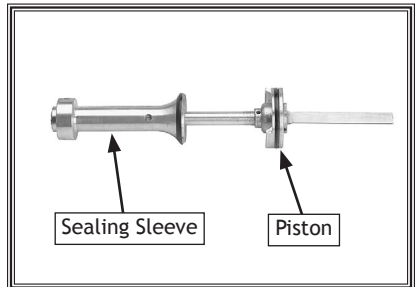

Figure 10. Piston assembly.
- Pull the piston from the sleeve (see **Figure 10**).